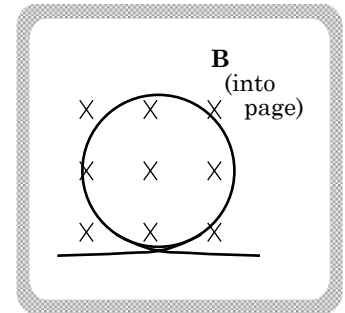

FIGURE 17.8
a.) A coil is placed in a constant external magnetic field (see Figure 17.8).